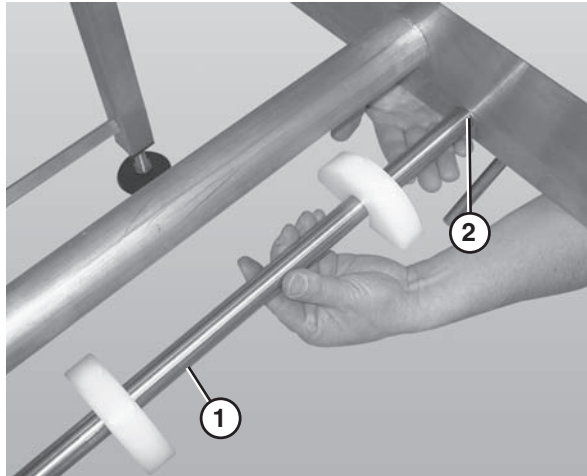

Figure 60
1. Remove the belt returns by pushing up on the return shaft (Figure 60, item 1) and sliding it through the large hole (Figure 60, item 2) in the frame.
2. Lower the opposite end of the return shaft (Figure 60, item 1) and slide it out of the frame.